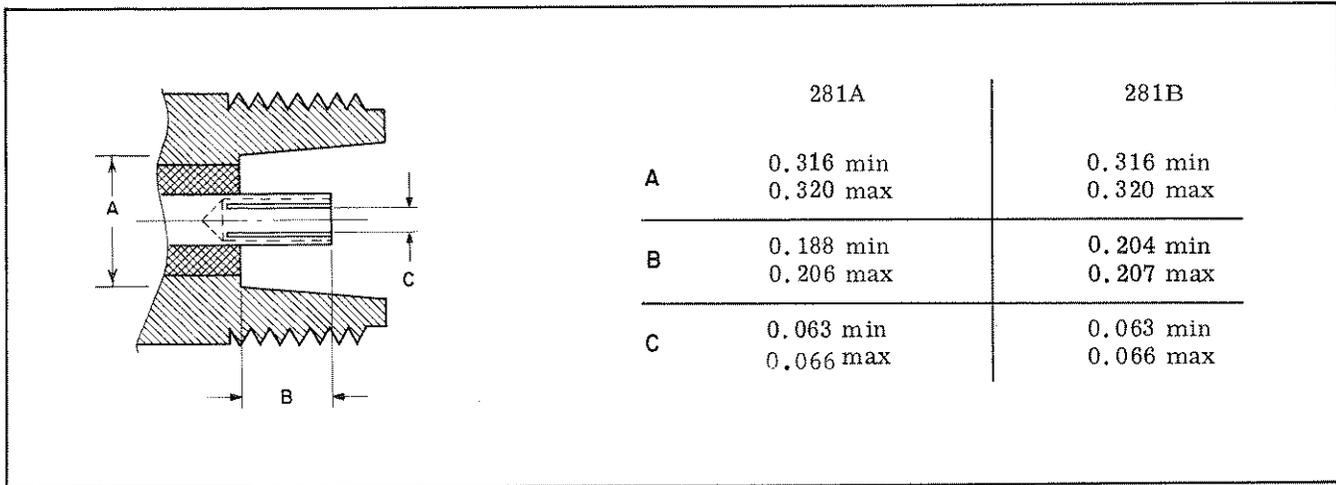

Figure 2. Dimensions of Type N Connectors
21. **TYPE N.** Two versions of the Type N coaxial connector are used on the adapters — one is used on all A models, and the other is used in Option 13B models. The version on A models is plated brass and is compatible with connectors conforming to MIL-C-71. The version on Option 13B models is stainless steel and is compatible with connectors conforming to MIL-C-71 or MIL-C-39012. Dimensions of these connectors are given in Figure 2.